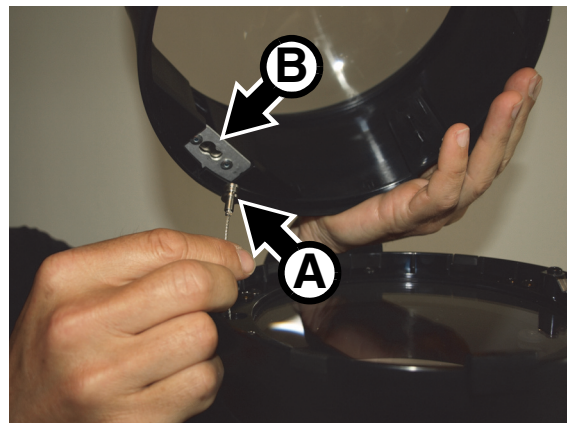

Figure 8
15. See Figure 8. Hold the Beam lens over the mounting collar. Lift up the end of the lens safety wire attachment **A** so that the wire can reach its attachment point **B** and push and slide it so that it is locked into the attachment point.
2. Disconnect the Beam Kit safety wire from the Beam lens with reference to Figure 8 on page 5 and remove the Beam lens from the fixture.